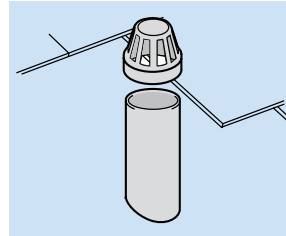

Fig. 55
- Place 150 Vent Cowl on open end of soil stack (do NOT solvent-weld at this stage) (Fig. 55).